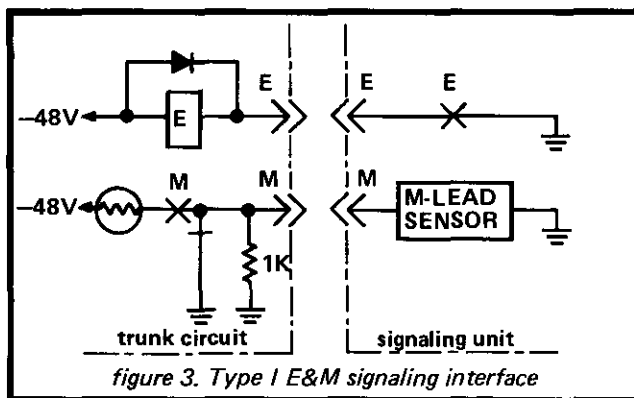

figure 3. Type I E&M signaling interface
2.06 The 6102 accommodates both single-lead and looped-signaling-lead interfaces. The conventional single-lead (Type I) format is used in electro-mechanical switching system environments, while the newer looped formats (Type II and Type III interfaces) are used in electronic switching system environments. Figures 3 through 5 show the three E&M interfaces.